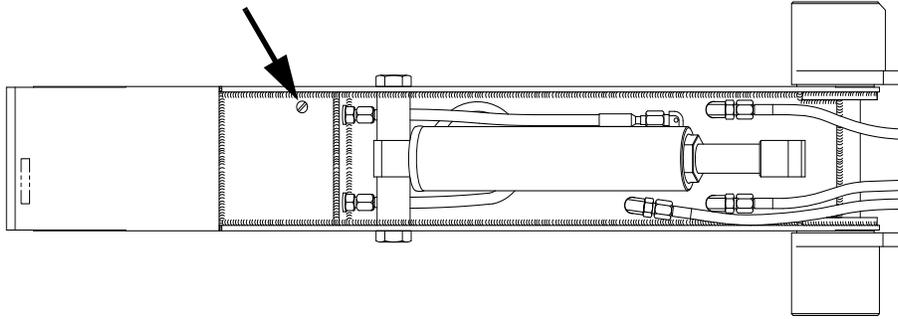

Figure 10 Upper arm drain screw
6. Remove the drain screw on the upper arm (Figure 10, arrow) to drain the fluid that accumulates in the low points near the filter.